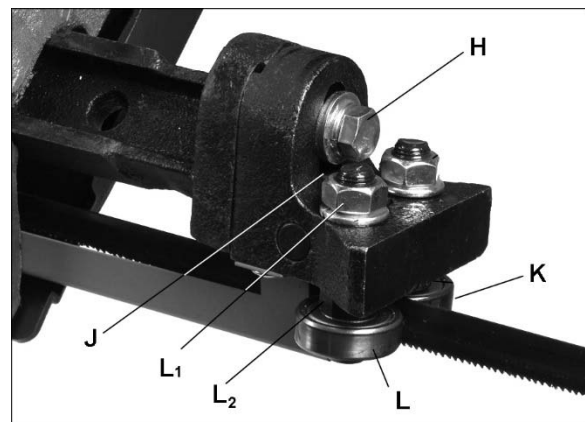

Figure 17
2. Loosen bolt (H, Figure 17) and adjust assembly so that rear bearing (J) is approximately 0.002 to 0.003 inches from back of blade. Also, inside bearing (K) should very lightly contact blade. Tighten bolt (H).
3. If there is a gap, loosen bolt (H, Figure 17) on each blade guide assembly and rotate blade guide assembly until gap is eliminated between square and ruler.
4. Retighten bolts (H, Figure 17).